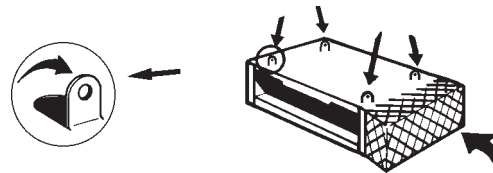

Fig. 16 Lifting of section in lifting hooks.
- The sections can also be lifted in their lifting hooks, which are partially concealed under the insulation. The hooks at the front of the oven roof are to be turned up 90° before use (fig. 16).